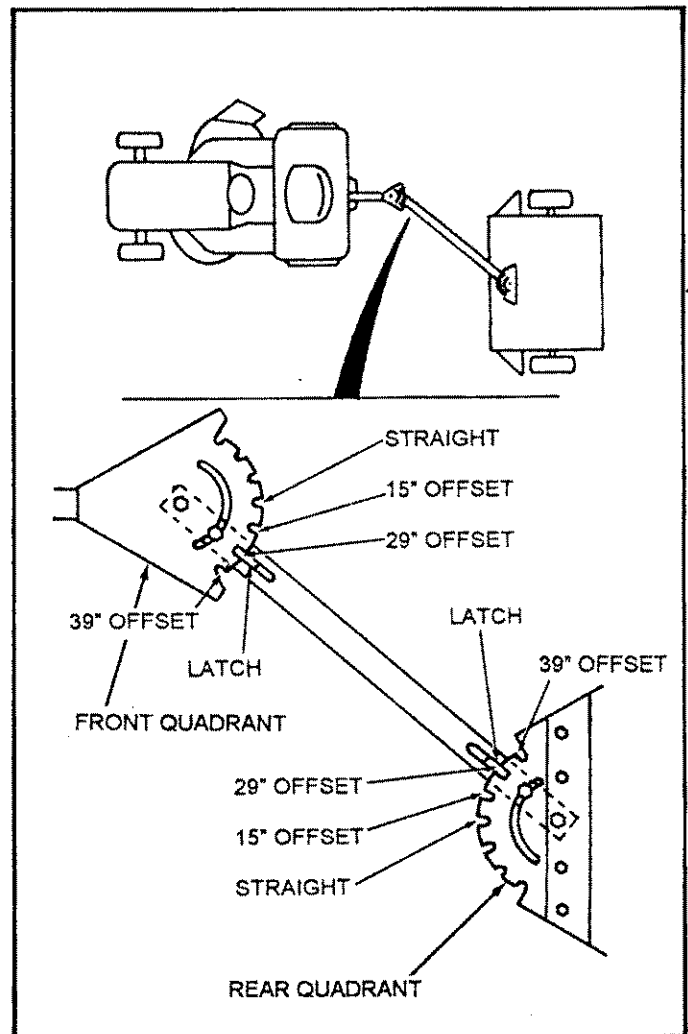

FIG. 6
- Pull back the pivot latch from the notch of the front quadrant. Adjust the hitch tube to the desired offset and release the pivot latch into the notch of the quadrant. (See Fig. 6)